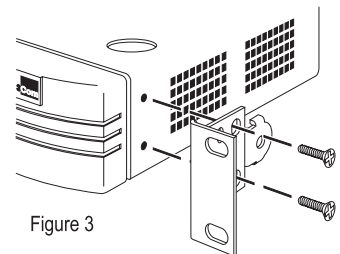

Figure 3
- 2 Locate a mounting bracket over the mounting holes on one side of the unit, as shown in figure 3 below.